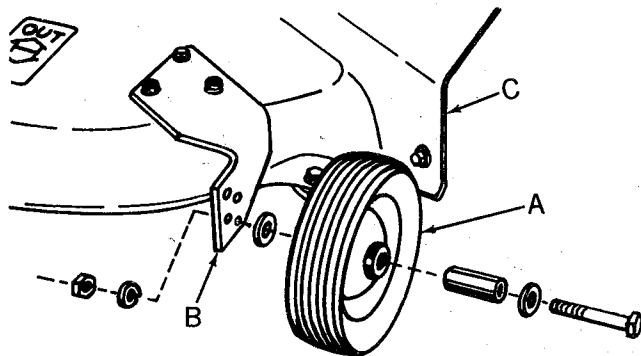

FIG. 6
1. Refer to Fig. 6. Assemble gauge wheels (A) to gauge wheel bracket (B). NOTE: Thicker portion of wheel hub must be toward gauge wheel support (B). A bushing must be inside each wheel hub, and a 3/8 x 7/8 x 14 Ga. washer must be on each side of wheel. Secure with a 3/8 x 2 3/4 hex bolts, 3/8 lockwasher, and 3/8 hex nut.